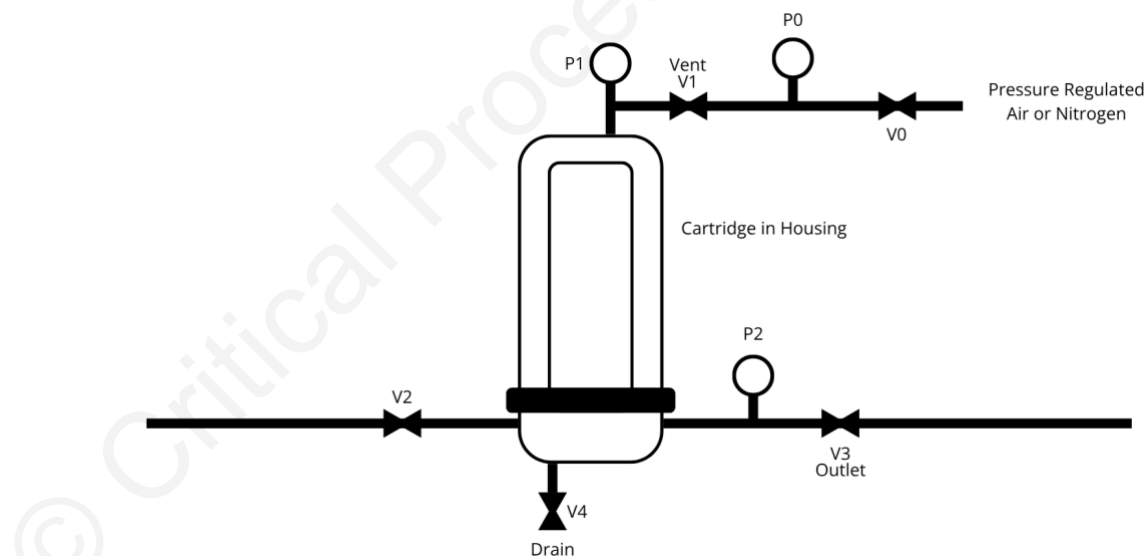

Figure 1: Cartridge Pressure Decay Test Attachment to Housing Vent
3. Typical setup for pressure decay testing is shown in Figure 1.